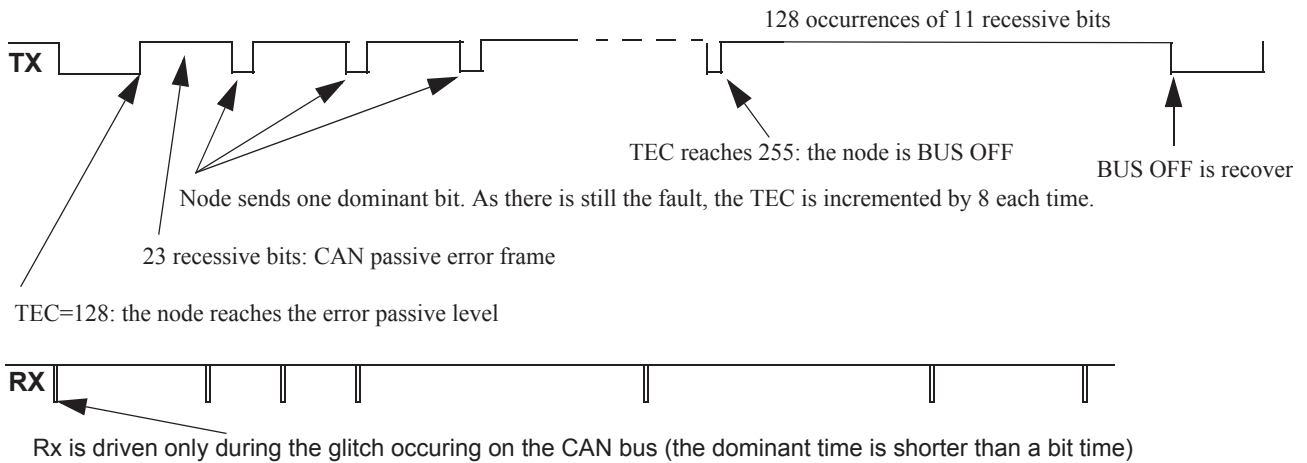

**Figure 45. CANH to CANL Short-circuit Condition**
34. For the failure case which leads to loss of communication and current flow for a very short time period as illustrated in Figure 45. So for instance for CANH to gnd, the impact of the peak current on the V2 voltage regulator is very limited. The TX, RX, and CAN signal in the figure are placed in a CANH to CANL short-circuit condition.